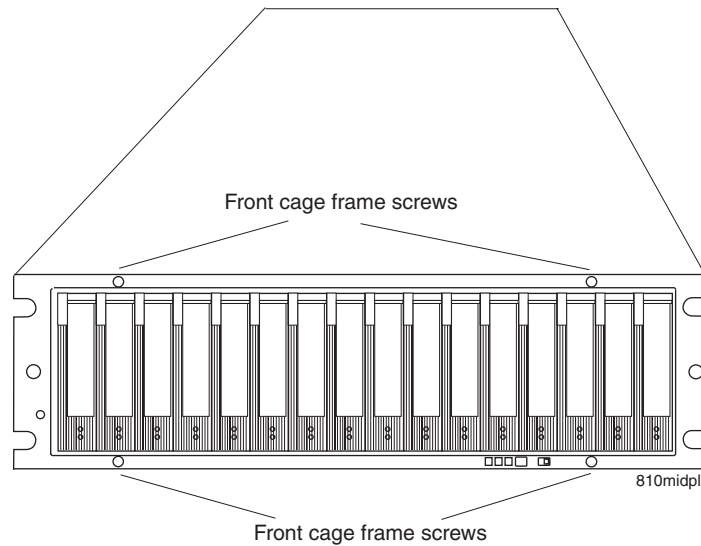

Figure 81. Replacing a midplane
9. Use a #1 Phillips screwdriver to loosen the four front cage frame screws on the midplane, as shown in Figure 81 on page 133.